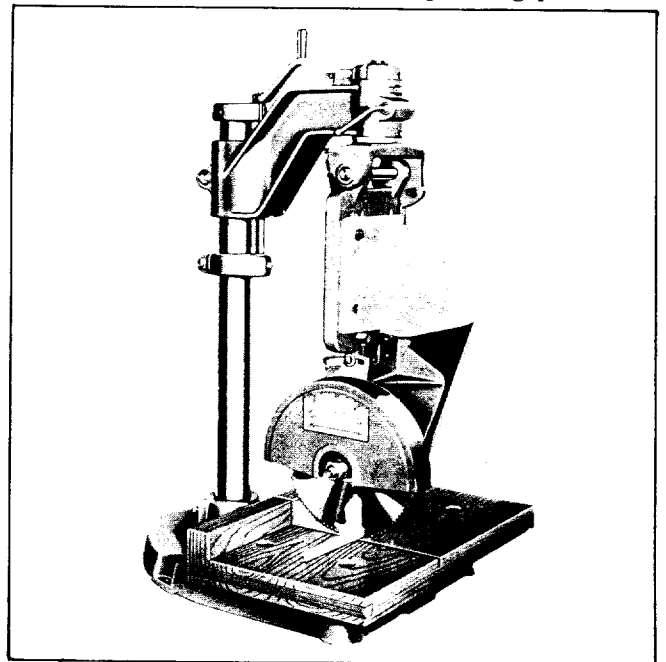

FIGURE 2
3. Using an accurate square resting on the table surface, see Fig. 2, square the table to the saw blade. Use stamped washers as spacers. Slip washers on holding screws between table and base. Use only as many as required to raise low side of table. Keep one leg of square on table parallel with saw arbor.
pass through the intersection of table top and work stop when cross-cutting and mitering. (See Fig. 2.) Do not attempt to cut work too wide thereby requiring saw blade to be lowered to a point where it would cut through the table at a vertical position. Keep at least 1/2 inch of table uncut. When changing the table position be sure to maintain the work stop square with the blade when saw blade is at cut off position.